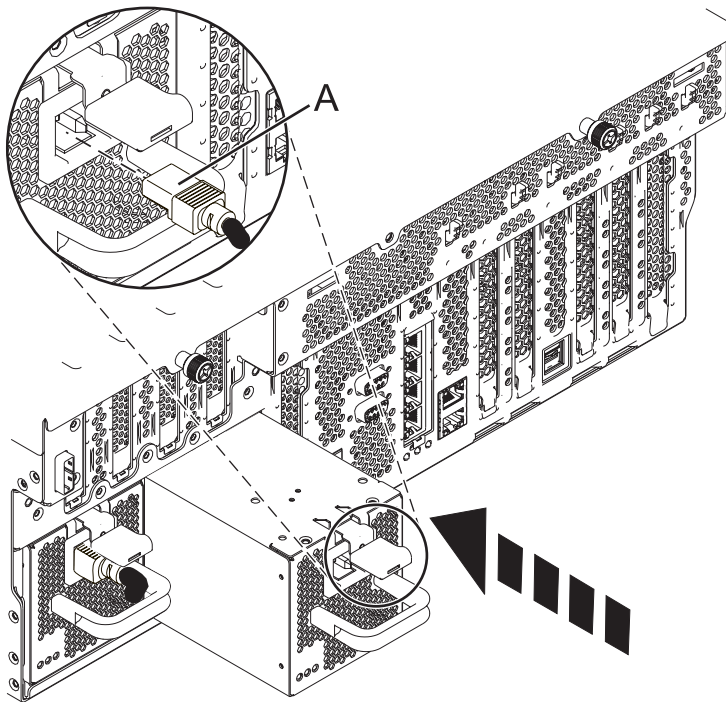

Figure 8. Replacing a power supply
4. Push the power supply into place until the locking latch snaps into place as shown in Figure 8.